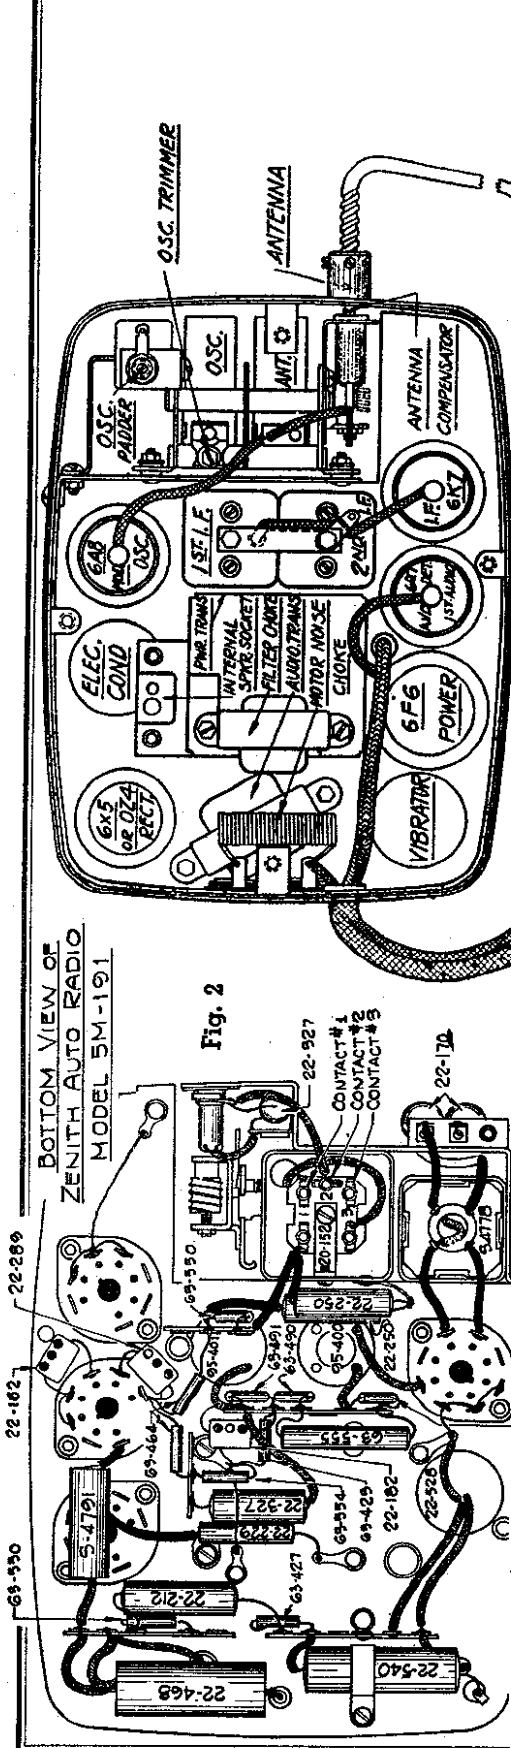
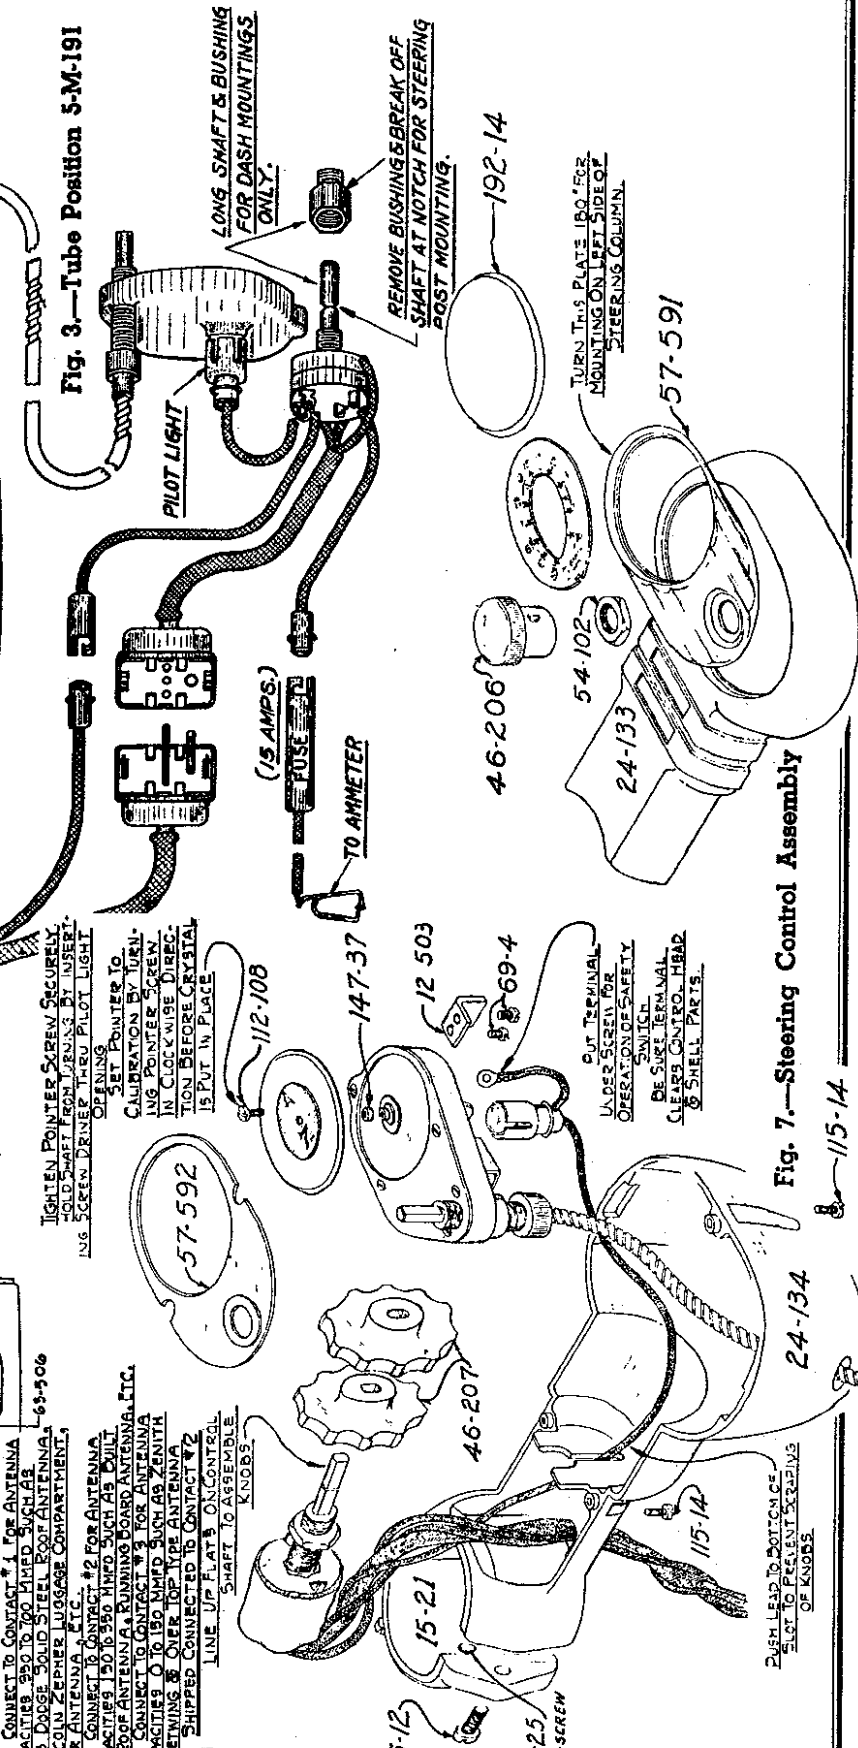

Fig. 2
Fig. 3—Tube Position 5-M-191
**IMPORTANT: BALANCING SET TO ANTENNA.** There is such an extremely wide variation in antenna capacities that it is difficult to match this condition without some means of variable antenna alignment. To accomplish this, an antenna compensating adjustment is provided through the small hole directly above the antenna cable connector on the receiver case. In addition to this, a tapped antenna transformer is also incorporated (see Figure No. 2). The proper method of alignment is as follows: After completely connecting receiver, tune in a signal between 1400 and 1450 K.C. and adjust the antenna compensator shown in Figure 3, for either the roof antenna, or single or double undercar antenna. The receiver is shipped from the factory with the antenna top shown in Figure 2 set to the No. 2 position, and, therefore, need not be changed for either of the two types of antennas mentioned.
For Zenith Fleet Wing, and Over the Top Antennas, unsolder the antenna lead from the No. 2 lug, and resolder it to the No. 3 lug. After this is done, tune in a station between 1450 and 1400 K.C., and adjust the antenna compensator shown in Figure 3 to resonance.